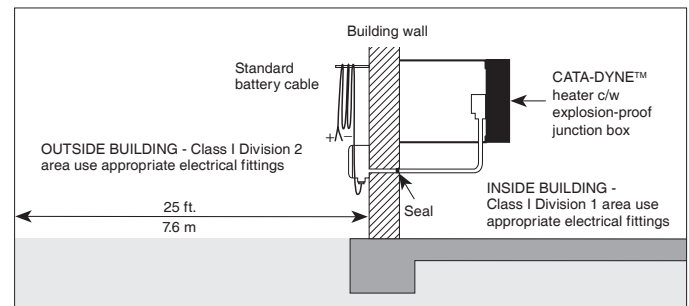

Figure 9 – Power supply connection (see Caution below).
4. Connection to the power supply must be outside of the Class I, Division 2 location (Figure 9, page 6). All electrical apparatus and wiring within this area must conform to the appropriate codes.